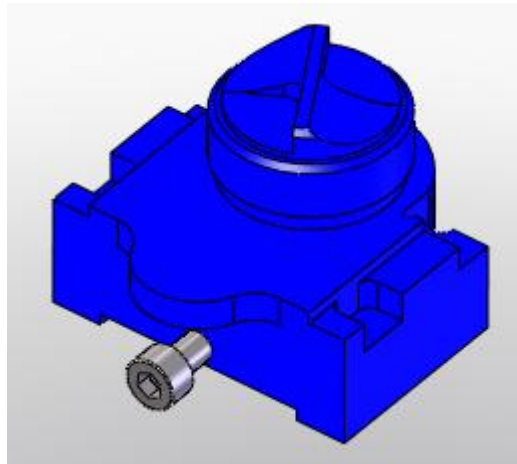

Fig. 2-7. Threaded cap inserted in scanner bracket
1. Prepare the bracket. The threaded cap should be unscrewed to its maximum (Fig. 2-7).